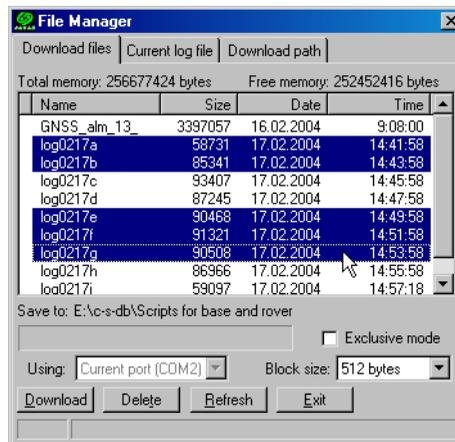

Figure 4-5. Download Files
- Select the file(s) you want to download (Figure 4-5).